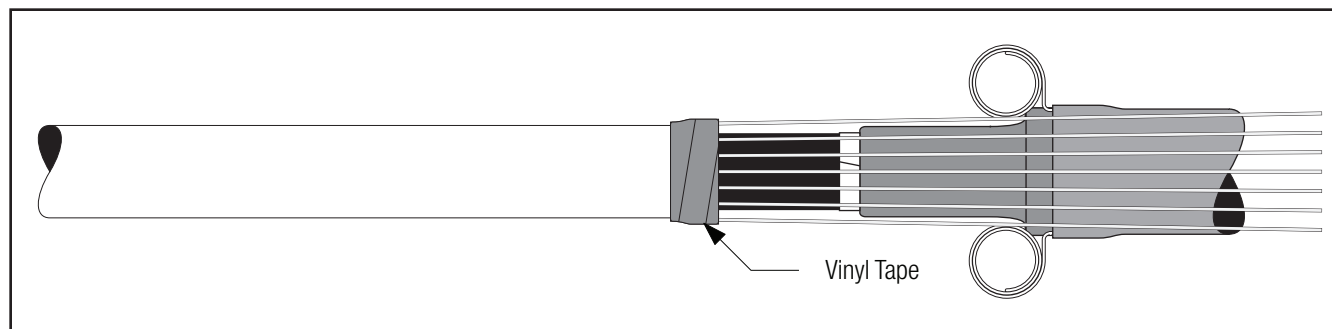

Figure 15
5.3 Cover mastic seals at each cable jacket with two wraps of vinyl tape (*Figure 15*).